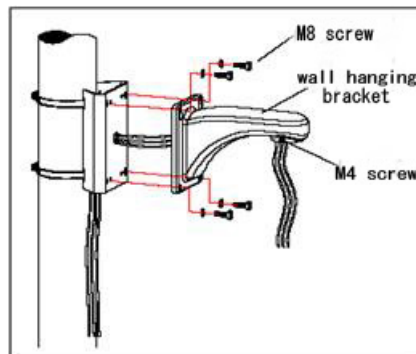

Fig. 10
b. As shown in Fig 10, fix the wall hanging bracket with all cables through it on the pole mounted attachment.